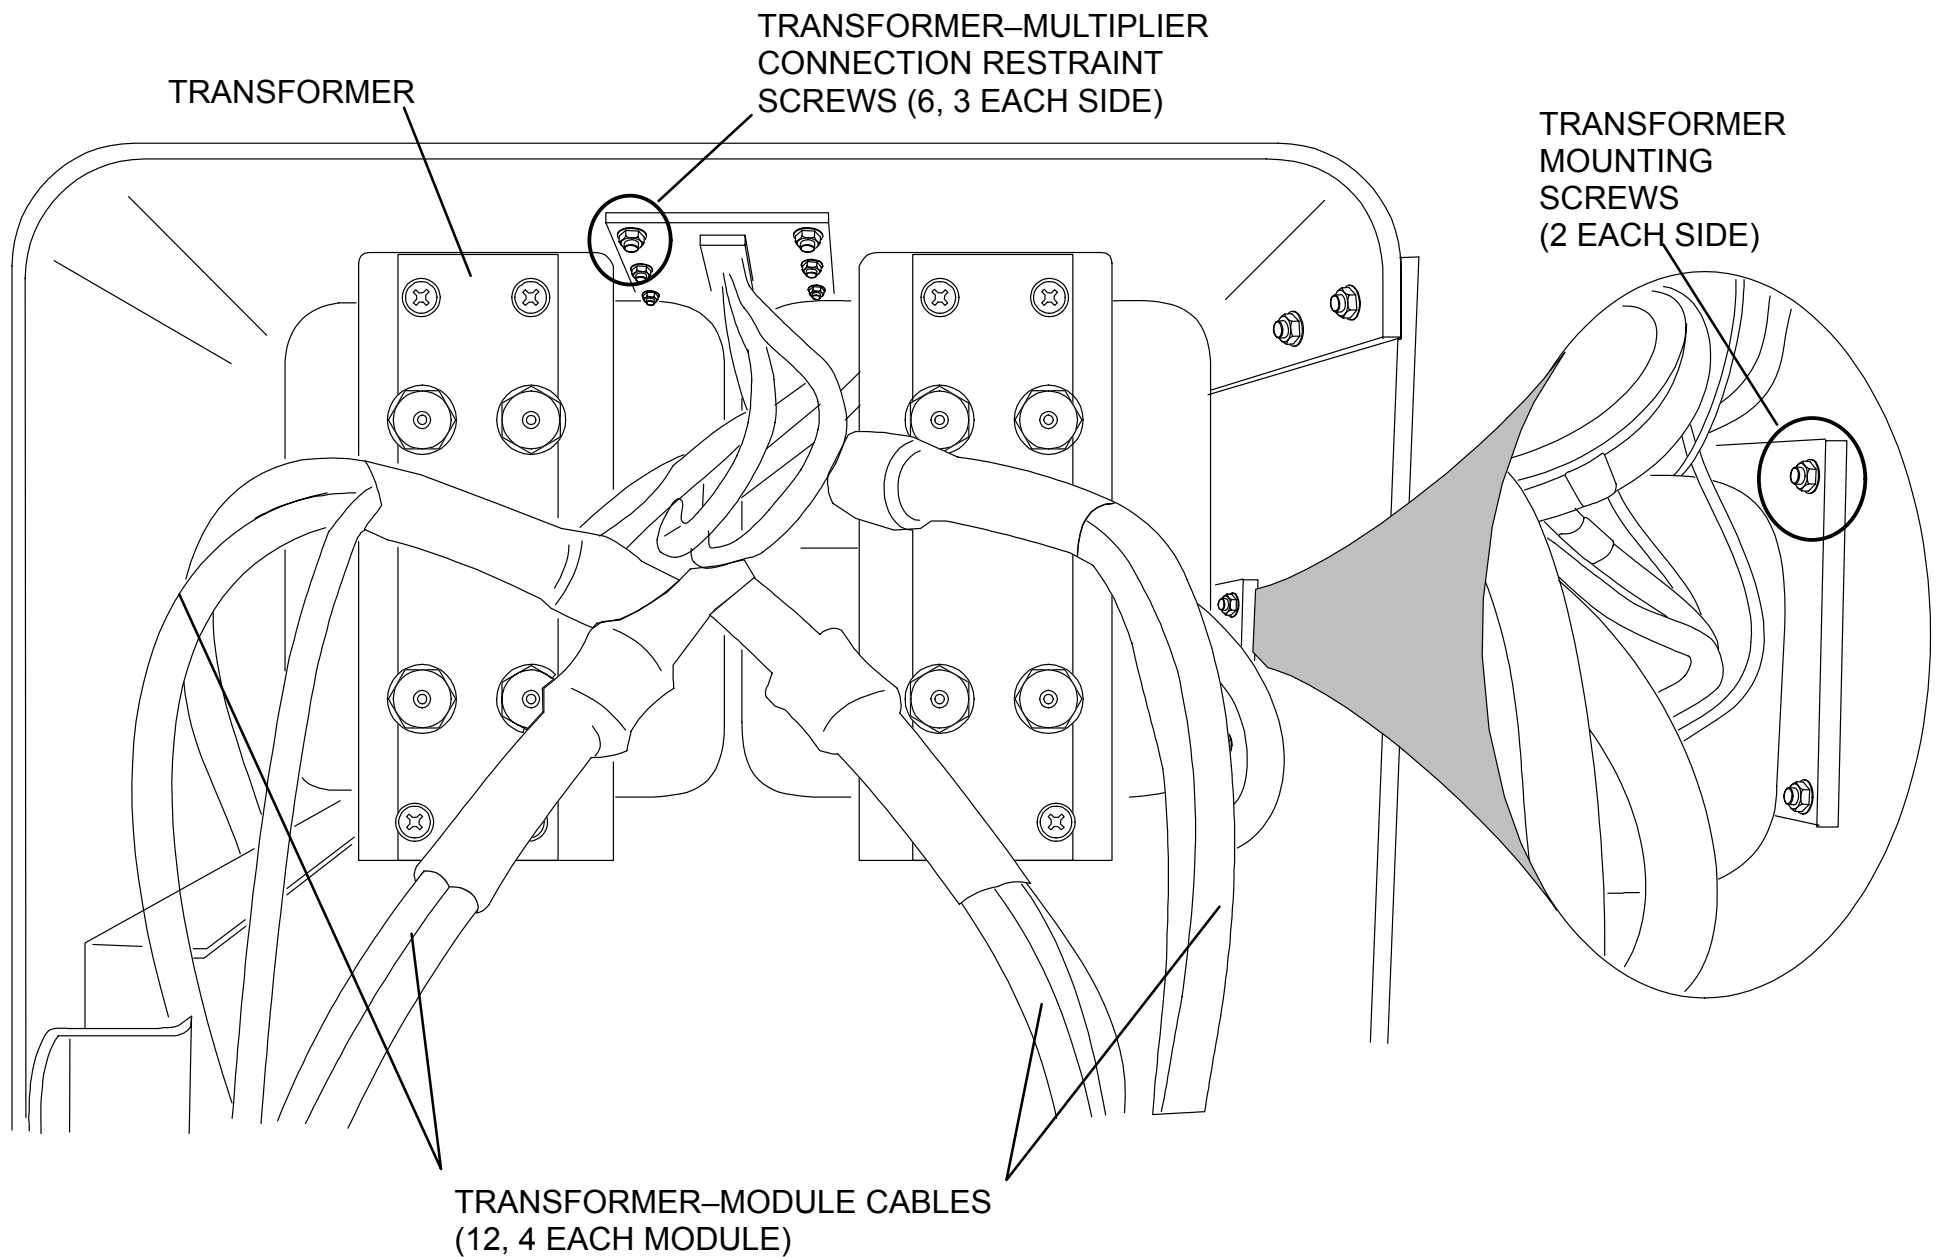

FIGURE 273 HIGH VOLTAGE TRANSFORMER
6. Remove the transformer–module cables from all modules and free them from the twist–type cable ties. Note cable tags in order to ensure proper installation of the new transformer. Refer to Figure 273.
9. Remove the six transformer–multiplier cable restraint screws and release the cable restraints. Refer to Figure 273.